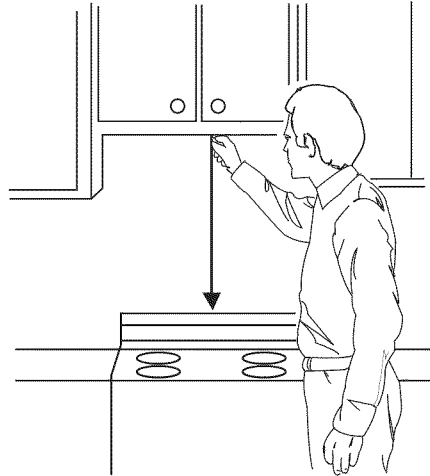

Figure 24
1. Using a plumb line and measuring tape, find and mark the vertical center line (V) on the back wall, as in Figure 24.
NOTE: Be sure the minimum width is 30 inches and the distance from the top of the wall template to the range or counter top is at least 30 inches. See Figure 24.